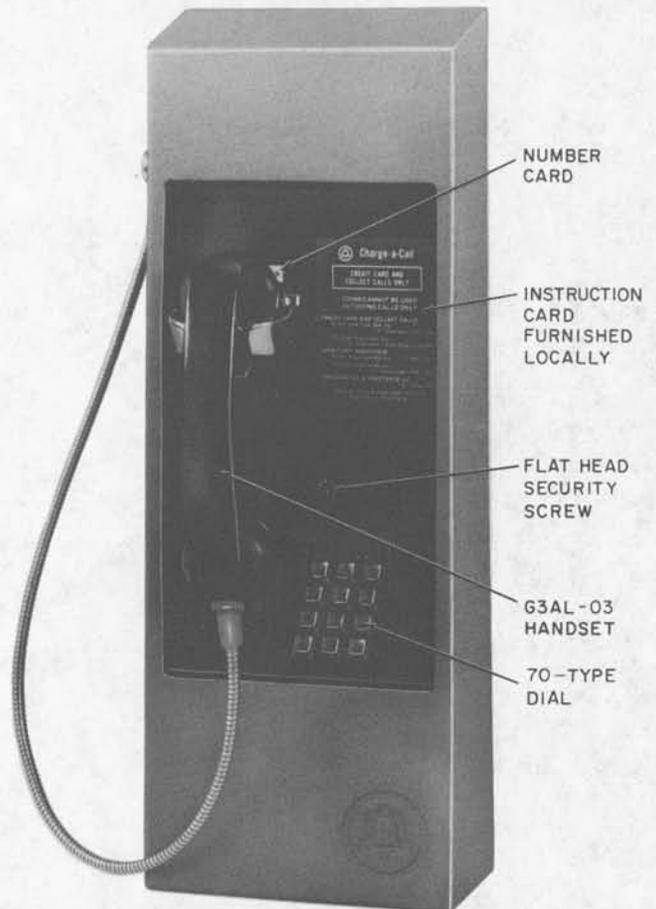

Fig. 1—10A Coinless Telephone Set
- (a) The 10A coinless telephone set (Fig. 1)
A. 10A Coinless Telephone Set (Fig. 1, 4, and 6)
- 2.06** The instruction card (Fig. 1 and 7) must be fabricated and procured locally.